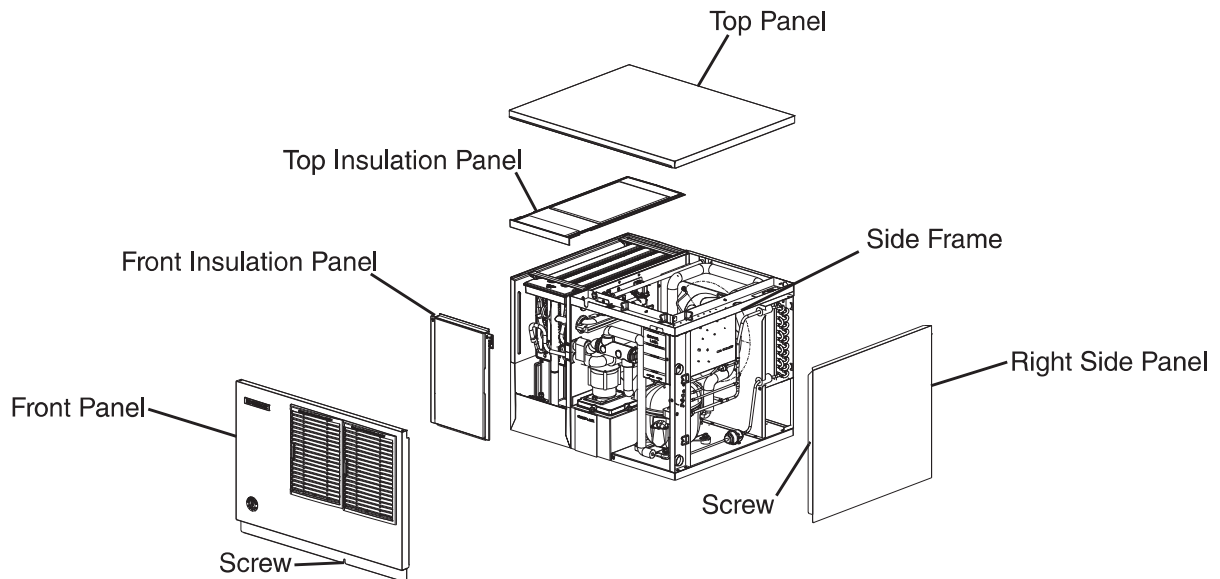

Fig. 1
See Fig. 1
- 5) Place the icemaker on top of the dispenser unit/ice storage bin. **NOTICE! Do not use the side frame to lift the icemaker. See Fig.1. Lift the icemaker from the base.**